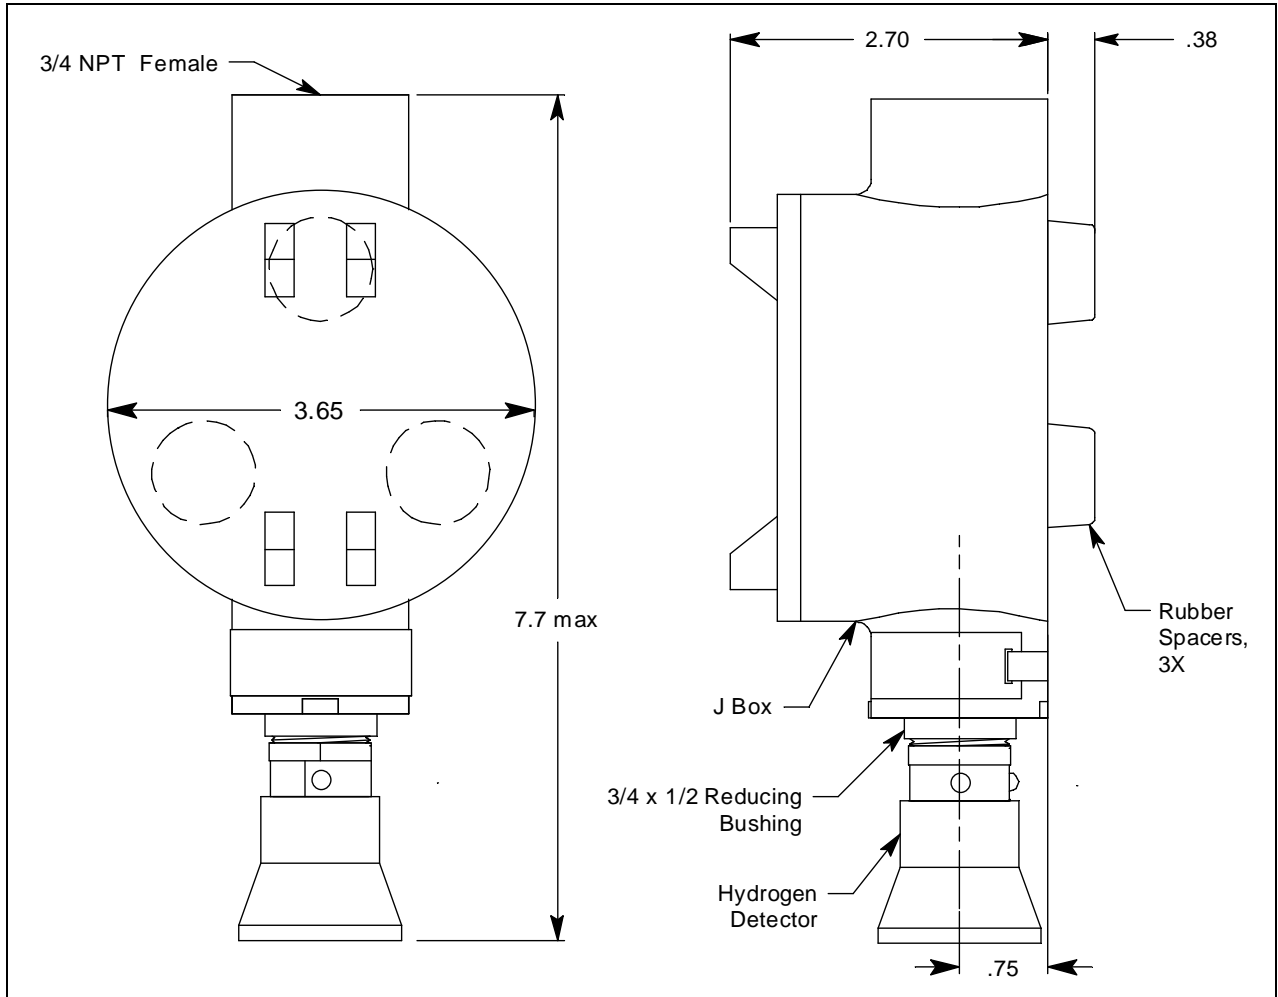

Figure 3: Mounting the Hydrogen Transmitter
2. At the monitoring site you select, hang or mount the junction box with the detector facing down (see Figure 3).